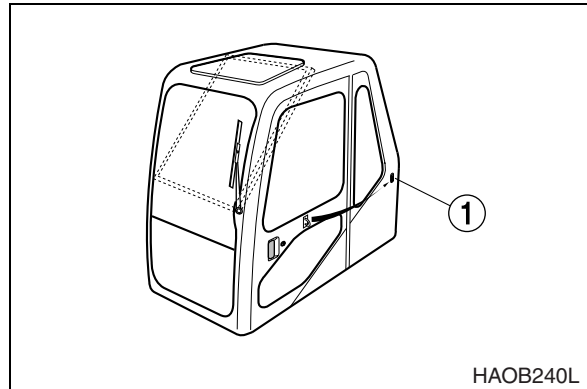

Figure 97
- The door side latch (1, Figure 97) is used to secured the door to the side of the cab when it is opened.